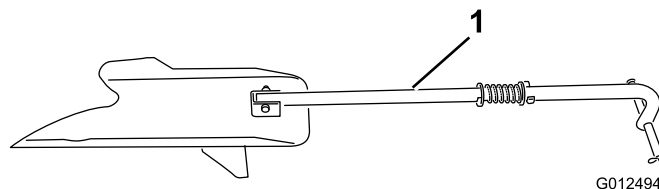
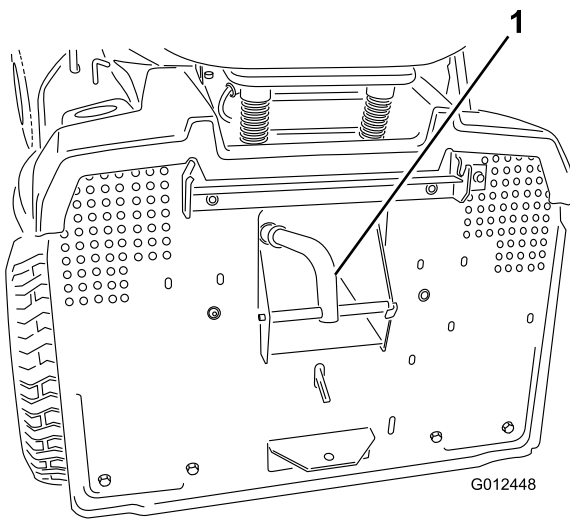

Figure 18
Figure 19
5. Insert the mulch plug (Figure 18) into the discharge opening at the rear of the machine, and hook it into the hole in the discharge chute (Figure 19).